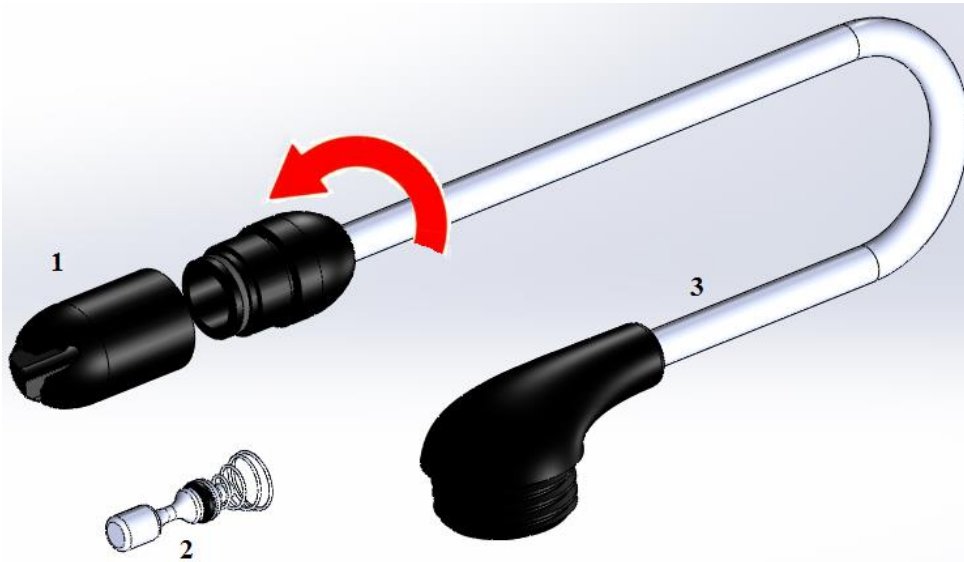

Figure 14
The Nozzle contains of 3 main parts. In order to separate the valve house(1) and the Nozzle (3), turn the Valve House counter clock wise see Figure 14. Be careful when the two parts are separated the Valve Piston (2) will easily fall out.